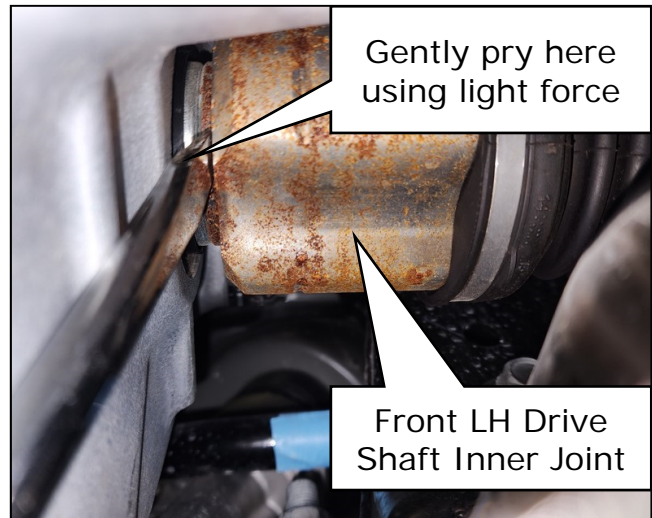

Figure 3
- Place a long flat-blade screwdriver between the Front LH Drive Shaft and the transaxle case, as shown in Figure 3.